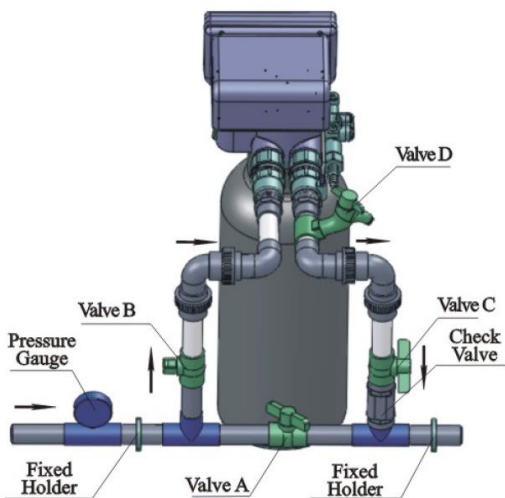

Figure1-3
④ Pipeline connection
- a. As Figure1-3 shows, install a pressure gauge in water inlet.